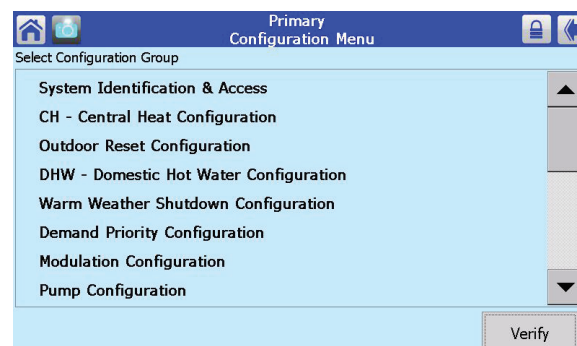

Fig. 54 – Configuration Menu
3. Select the “Configure” button in the bottom left-hand corner of the display. Figure 54 shows the Configuration menu.